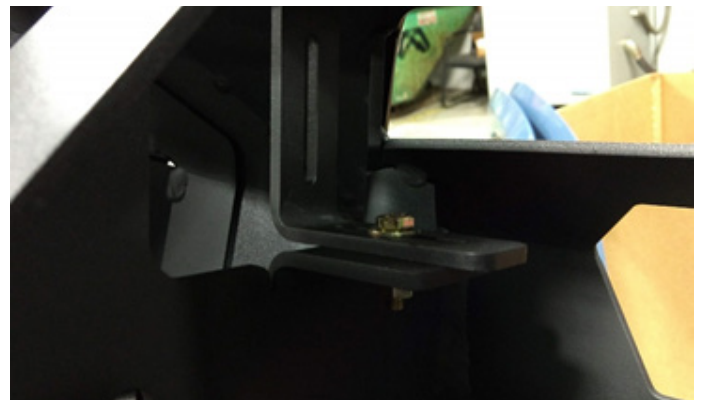

Figure 15
17. If installing lighting into the center portion of your matrix bumper, do so now using the two (2) provided "L" shaped brackets (21871-10) and 1/4" grade 8 bolts, washers, and nuts (50203-HW) with 5/16" socket and open-end wrenches. (Figure 15)